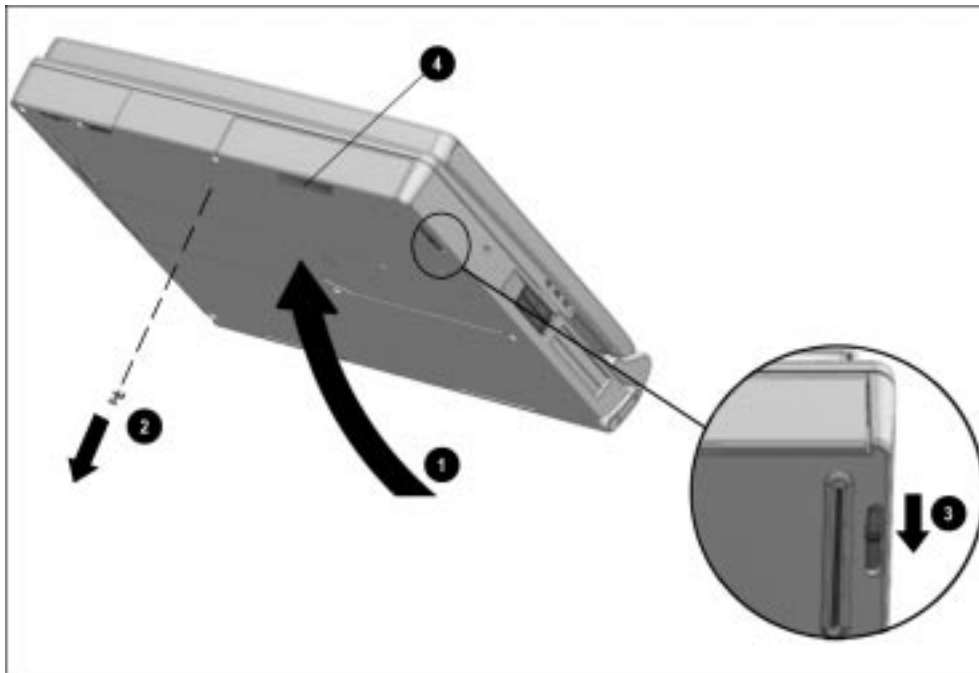

Figure 5-20. Releasing the Hard Drive Assembly from the MultiBay
2. Tilt the computer at an angle **1** so the bottom of the computer is accessible (Figure 5-20).